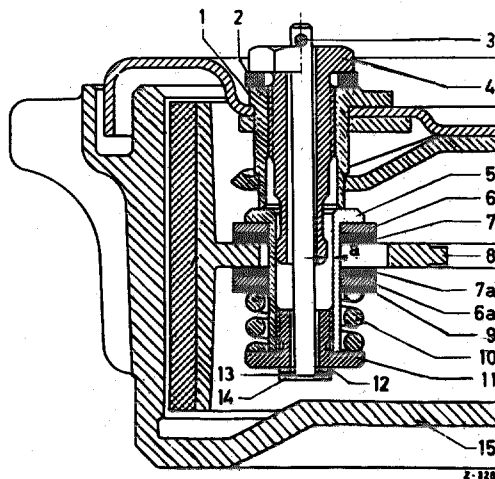

Fig. 42—9/1
2. Detach the return spring (3) for the brake shoes and return spring (13) for the brake lever (see Fig. 42—9/5).
3. Remove the cotter pin (3) from the guide pin (14) of the automatic adjustment at the back of the brake anchor plate.
Then pull out the guide pin (14) together with the lock washer (13) and the washer (12) at both brake shoes (Fig. 42—9/1).